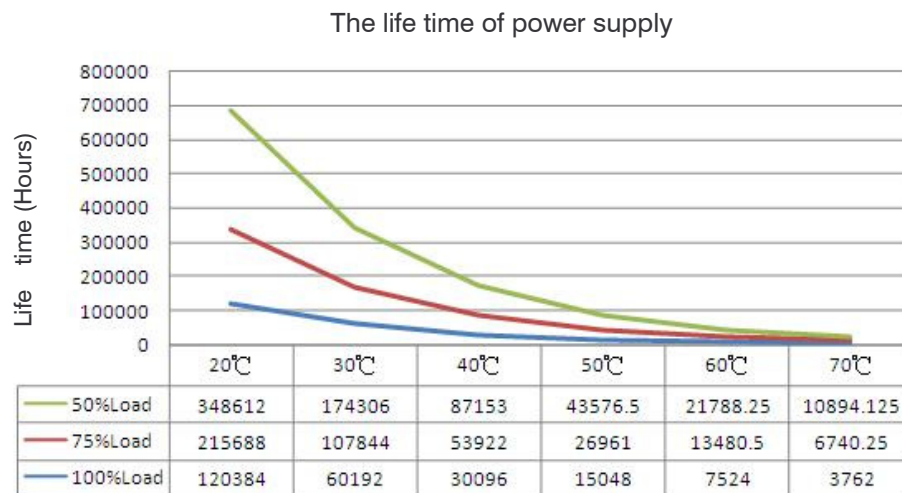

Fig.4.5: Relationship between output load, operating temperature and life time in LED power supply
- The life time of LED power supply is highly relevant to operating temperature. Take CLG-150 as example, for operations at the same load level, the lower the operating temperature, the longer its life time; for operations at the same operating temperature, the lighter the load, the longer its life time. When choosing a power supply, it is recommended to add a margin to the actual power usage to match the longer life time characteristic of LED. The relationship is as shown in Fig.4.5.